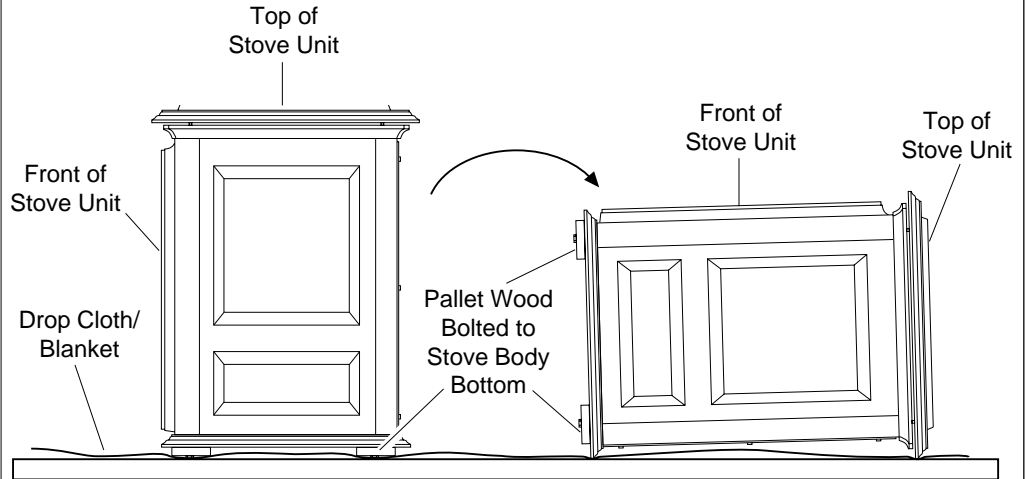

Figure 6 - Laying Down Stove On Side
- (1) - Hardware kit bag with fasteners
6. Carefully lay stove body on back to attach bottom components to stove body (see Figure 6). Rest stove on drop cloth or blanket to avoid scratching stove edges.